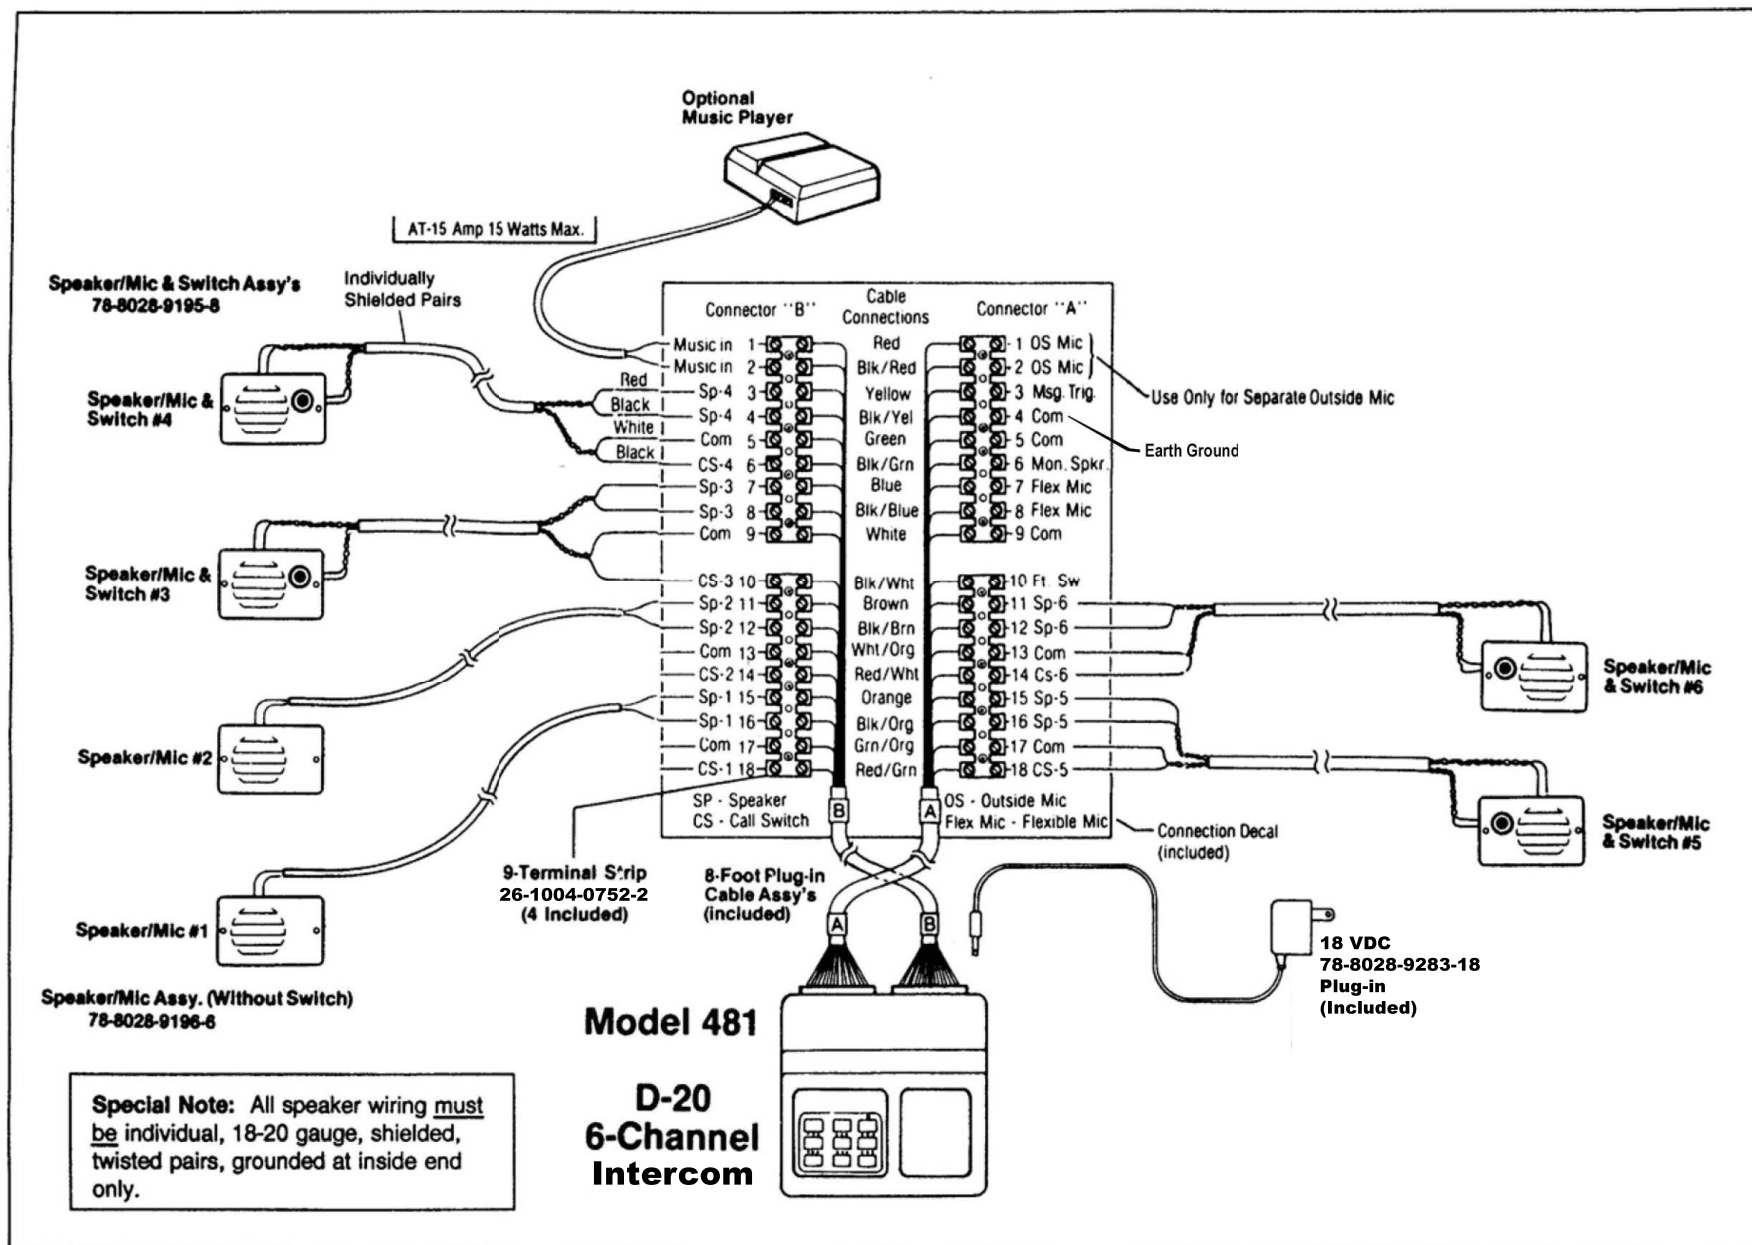

Figure 4. D-20 Connections – With Outside Handsets
2. **OUTSIDE HANDSETS** – You can use handsets instead of speakers on each D-20 channel. Connect handset as show in Figure 4 (page 11).